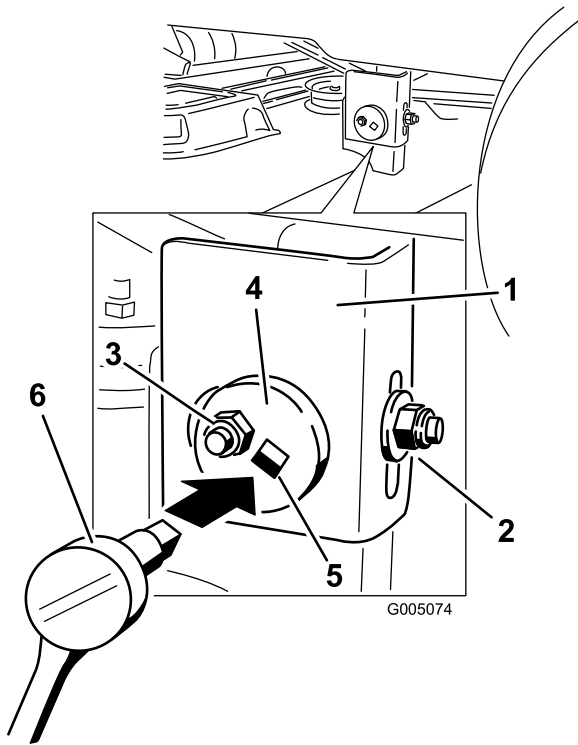

Figure 51
6. Move to the left side of the machine. Loosen, but do not remove, the rear locking nut on the hanger bracket (Figure 51).
7. Loosen the side locking nut on the hanger bracket just enough to allow the eccentric plate to be adjusted (Figure 51). Use a 3/8 inch drive extension on a socket wrench to manipulate the eccentric plate. Use the wrench to reposition the height of the mower deck and adjust it so the measurements taken in Step 5 are within 3/16 inch (5 mm).
8. Stop the deck at the adjusted position and tighten the side locking nut on the hanger bracket to hold the new position (Figure 51). Tighten the rear locking nut on the hanger bracket.